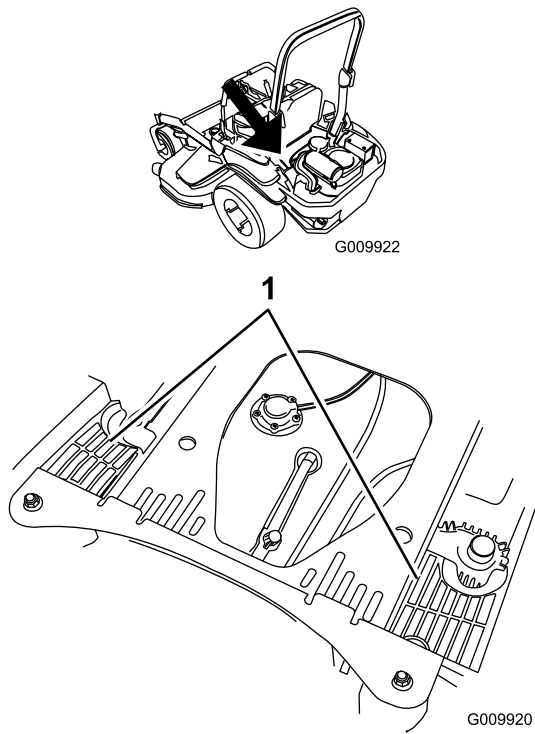

Figure 77
4. Clean the debris and grass from the hydraulic unit shrouds (Figure 77).